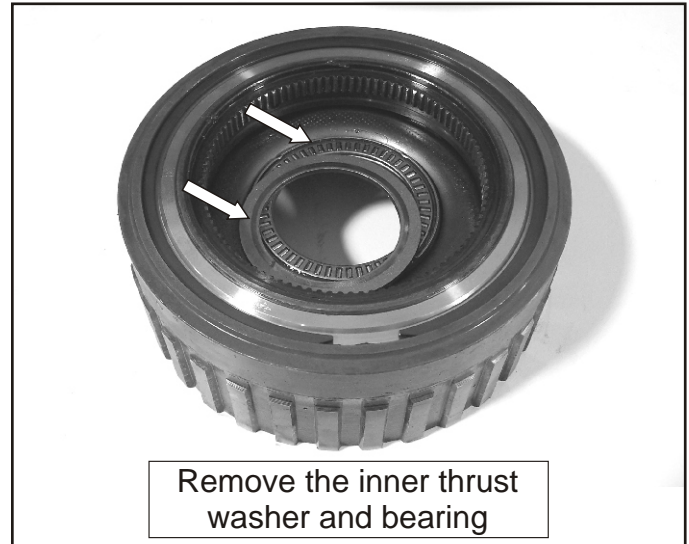

Figure 81
30. Turn the ring gear over and remove the inner thrust washer and bearing shown in Figure 81.